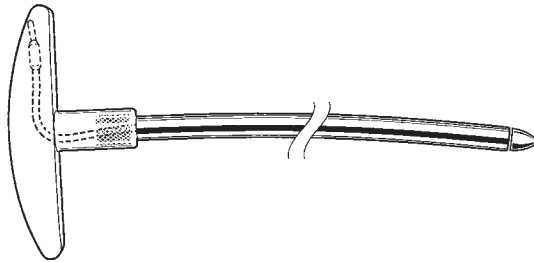

FIGURE 41
- Using the tunneling tool from the surgical lead package, the Model 3550 accessory kit (shown in FIGURE 41 and in rest of procedure), or other appropriate accessory kit, bend the tunneling tool as necessary to conform to the patient's contour along the tunneling route.